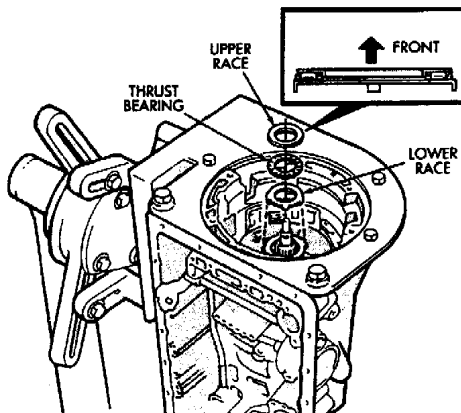

Fig. 45 Installing Overdrive Support Thrust Bearing And Races
(53) Remove dial indicator and gauge tool.
(54) Remove overdrive brake piston snap ring and remove overdrive clutch pack components.
(55) Coat overdrive lower race, thrust bearing and upper race with petroleum jelly and install them in overdrive support (Fig. 45). Be sure races and bearing are assembled and installed as shown.
(56) Verify bearing/race sizes before proceeding. Bearing-race sizes are: Outer diameter of lower race is 47.8 mm (1.882 in); inside diameter is 34.3 mm (1.350